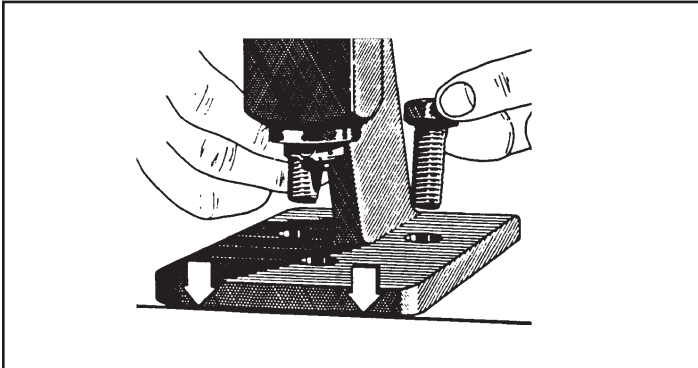

Figure 11. Chain Breaker Mounting
1. Mount the chain breaker flush with the side or front of a flat, clean work surface (Figure 11).